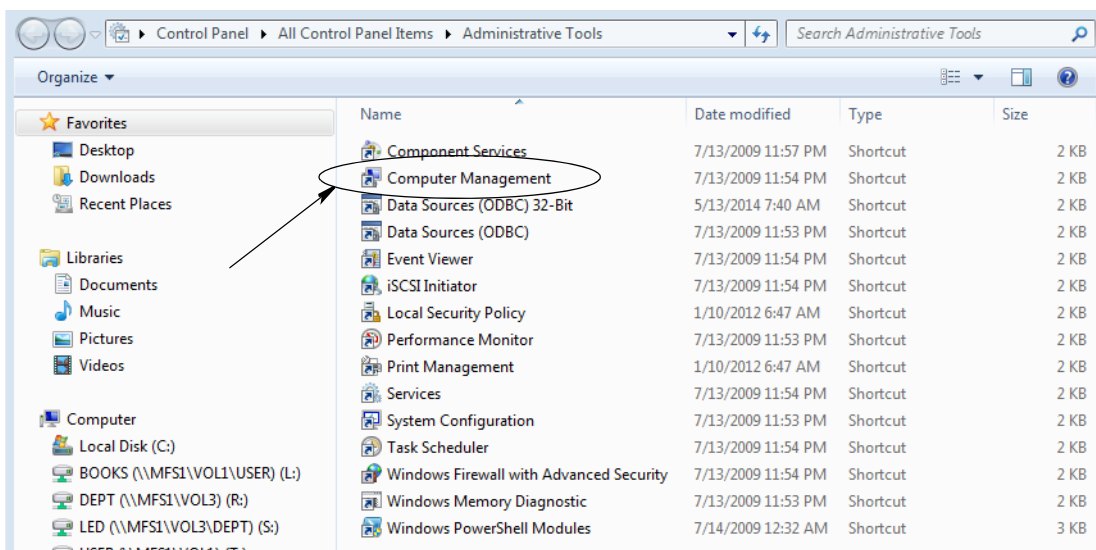

FIG. 205
- b. Double click on the Computer Management Link (FIG. 205).